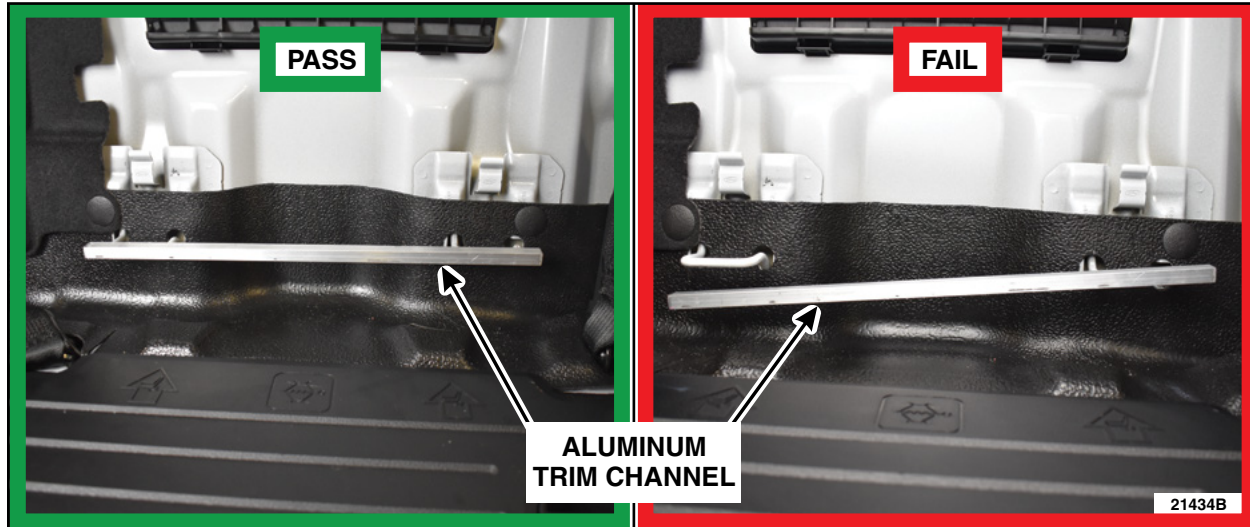

FIGURE 4
6. Place the 1/4 inch (6.35 mm) aluminum trim channel over the adjusted child restraint anchor(s). Does the affected child restraint anchor(s) fit within the aluminum trim channel? See Figure 4.